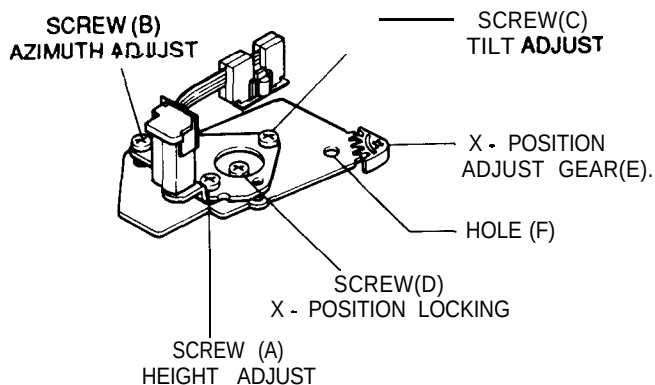

Fig. 4 Location of A/C Head Adjustment Screw
3. Turn screws (A), (B), (C) clockwise or counterclockwise until the gap of the lower tape edge and the lower edge of the control head is about 0.25 mm. (Refer to Fig. 4. and 5.)
3. Adjust screw (B) vertically to achieve maximum audio level. (See Fig. 4)
6. Turn the screw (E) counterclockwise (See Fig. 4).